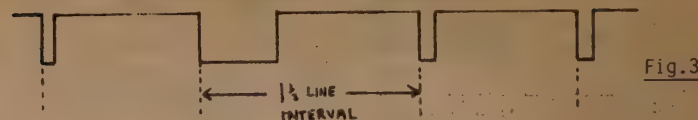
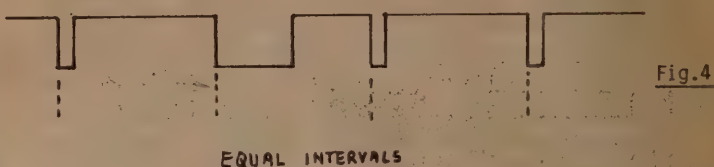

Fig.3
Fig.4
**SYNC PULSES-** There are two different ways of adding sync pulses to the SSTV video as shown in Figs. 3 & 4. In Fig. 3 the frame sync pulse, which is of  $30\text{ms}$  duration, starts at the end of the last picture line and continues until the start of the first line of the next picture. As a result of this, if the line oscillator is free-running, at the start of the picture the sync pulse is half the line period out of step with the oscillator and a "hard lock" circuit is needed to bring it rapidly back into step. In Fig. 4 the frame sync pulse occurs during the first line and the rhythm of the line sync pulses is not interrupted. I would strongly advise the adopting of this latter method even though it means the loss of the first half of the first picture line. A small price to pay for a more elegant system.